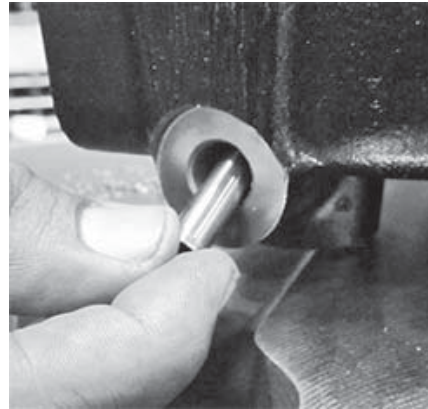

Figure 6.49
11. Insert the indicator switch actuation pin into place. The rounded end of the pin must face inward. Figure 6.49.